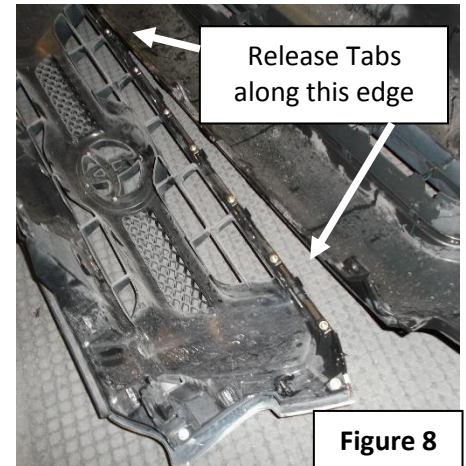

Figure 8
17. Separate the radiator grill from the bumper cover at this time by releasing the 8 tabs along the bottom, back side of the grill. See **Figure 8**.